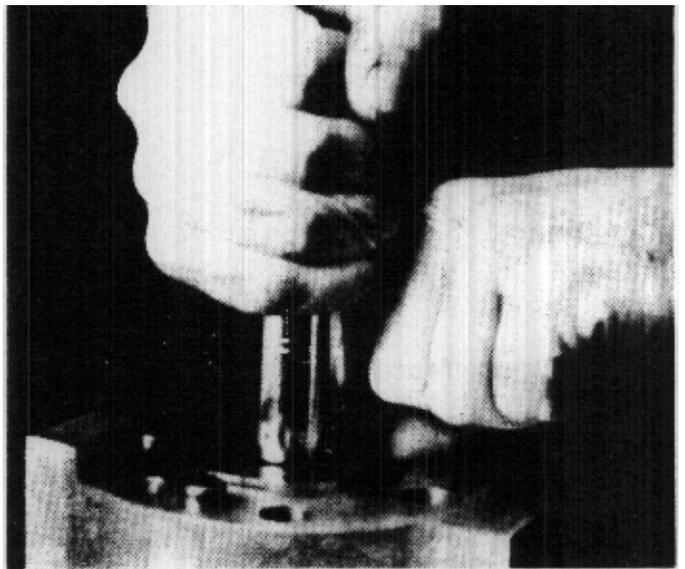

FIGURE 80
9. Grasp the drive gear shaft extension (5) and lift it slightly with a quick upward motion. This action will dislodge the pressure plate (9) (12, in SPM25) from the bore. Place the thumb and forefinger of the other hand in the slots of the pressure plate. Release the drive shaft and lift the pressure plate from the body. (Fig. 80)